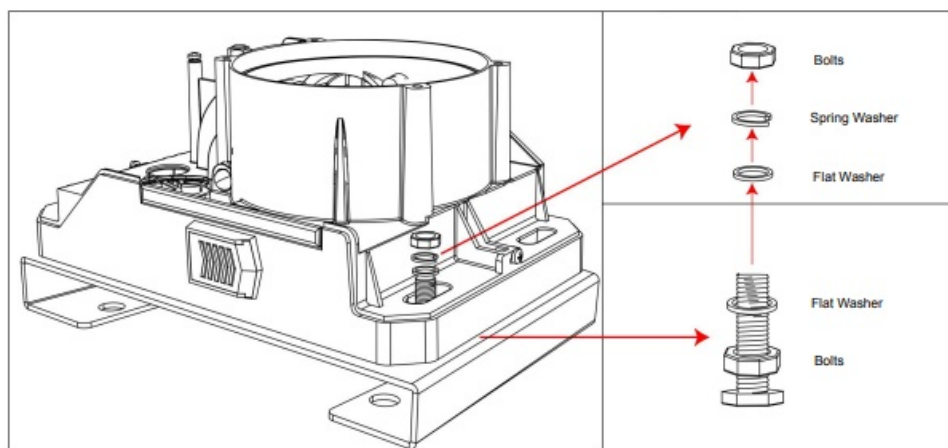

Figure 10
- Bolt motor to its base using the M10 bolts with spring and flat washers provided and tighten as required. (The height can be slightly adjusted by bottom bolts as per Figure 10).